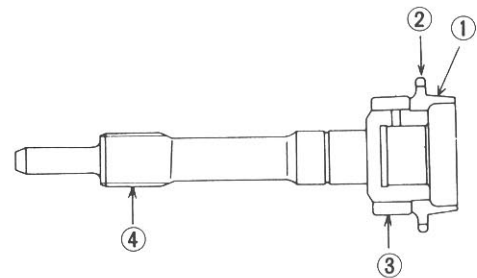

Fig. 13-31
Referring to Fig. 13-31, inspect cone ① and toothed ring ② for wear and damage.